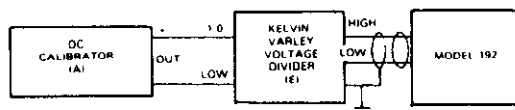

Figure 6-1. Test Circuit .2mV and 2V
- Connect the DC calibrator (Item A, Table 6-1), Kelvin-Varley voltage divider (E) and Model 192 as shown in Figure 6-1.